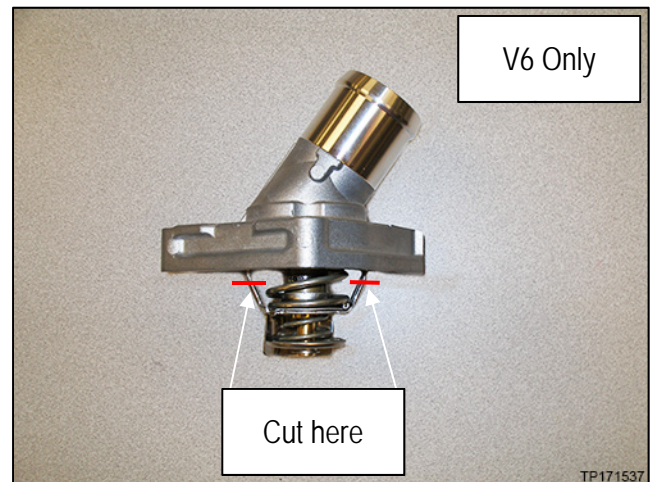

Figure 3
- Cut / modify the water inlet housing at the locations shown in Figure 3.